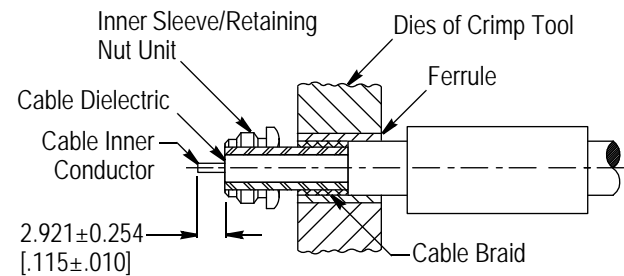

Figure 4
### 3.2. Crimp Cable to Inner Sleeve (See Figure 4)
7. Trim the cable inner conductor to the length given in Figure 4.